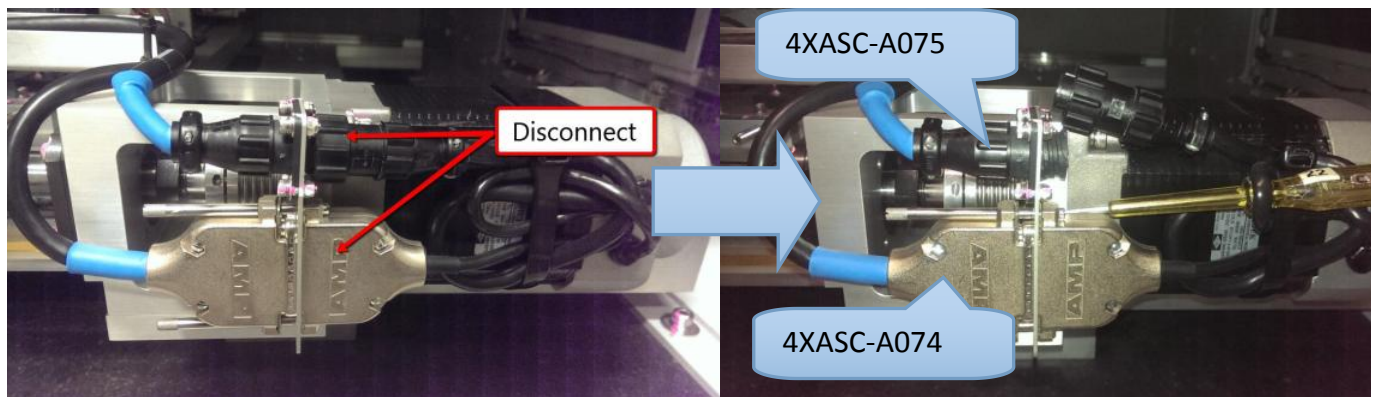

Figure 1 MCG Motor connector removal
5. Disconnect the connector from V810 Cable, Motor ENC/Hall, X Axis (P/N, 4XASC-A074) and V810 Cable, Motor PWR, X Axis (P/N, 4XASC-A075) as shown. Use flat head screwdriver to unscrew the lock screws as below Figure 1.